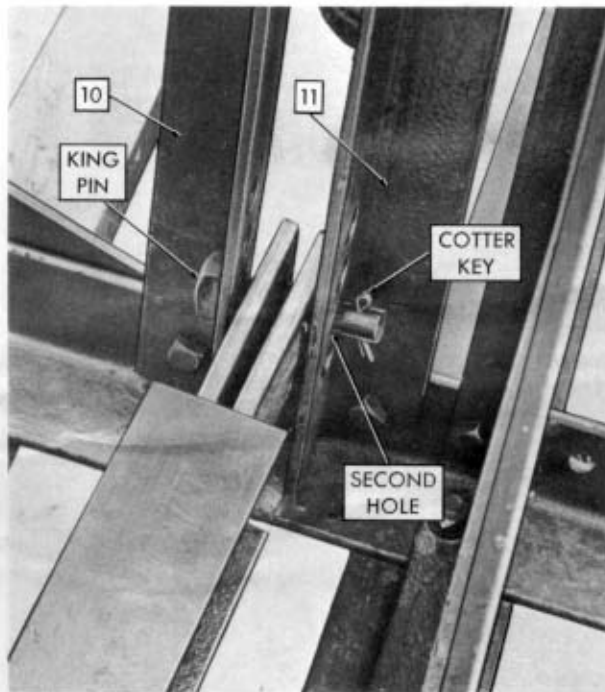

Figure 11
**Step 8:** Attach right and left push beams (19) to the Sweep Rake between a pair of short push beam angles (10 and 11) with a large king pin and cotter key. Put the pin through the second hole from the bottom end of the push beam angle. Figure 11.